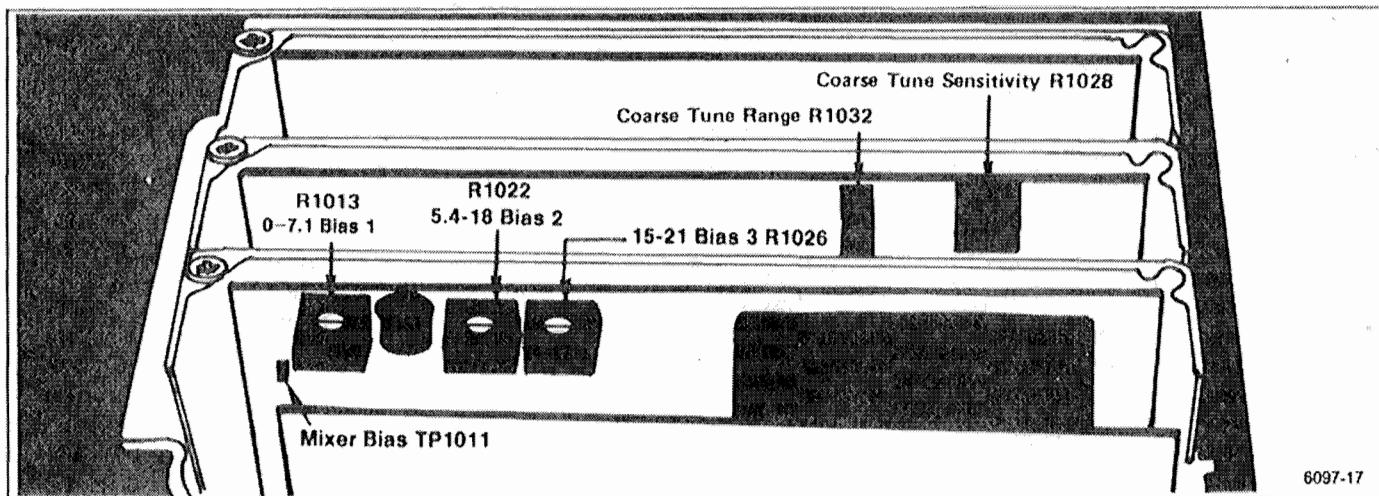

Figure 5-11. 1st LO Driver board adjustment and test point locations.
b. Monitor TP1011 on the 1st LO Driver board (Figure 5-11) with a voltmeter (voltmeter between TP1011 and crt shield).
c. Adjust R1013 (Figure 5-11) for a reading of -1.0 V.
- b. Monitor TP1011 on the 1st LO Driver board (Figure 5-11) with a voltmeter (meter ground at crt shield). Adjust Bias 2 R1022 for a meter reading of –0.25 V.